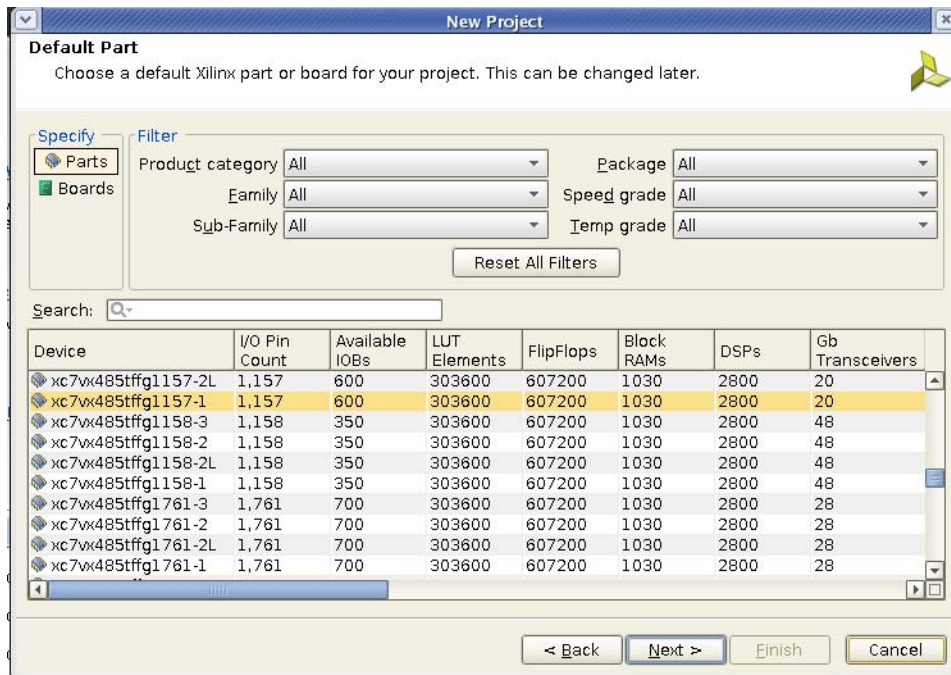

Figure 5-14: Default Part
5. From the Part tab (Figure 5-14), select these options: